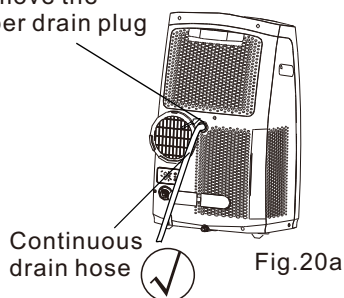
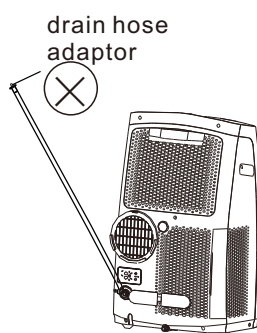

Fig.20a
Fig.21b
- During dehumidifying modes, remove the upper drain plug from the back of the unit, install the drain connector(5/8" universal female mender) with 3/4" hose(locally purchased). For the models without drain connector, just attach the drain hose to the hole. Place the open end of the hose directly over the drain area in your basement floor. Please refer to Fig.20a.
NOTE: Make sure the hose is secure so there are no leaks. Direct the hose toward the drain, making sure that there are no kinks that will stop the water flowing. Place the end of the hose into the drain and make sure the end of the hose is down to let the water flow smoothly. (See Fig.20a, 20b, 21a). Do never let it up. (See Fig.21b).